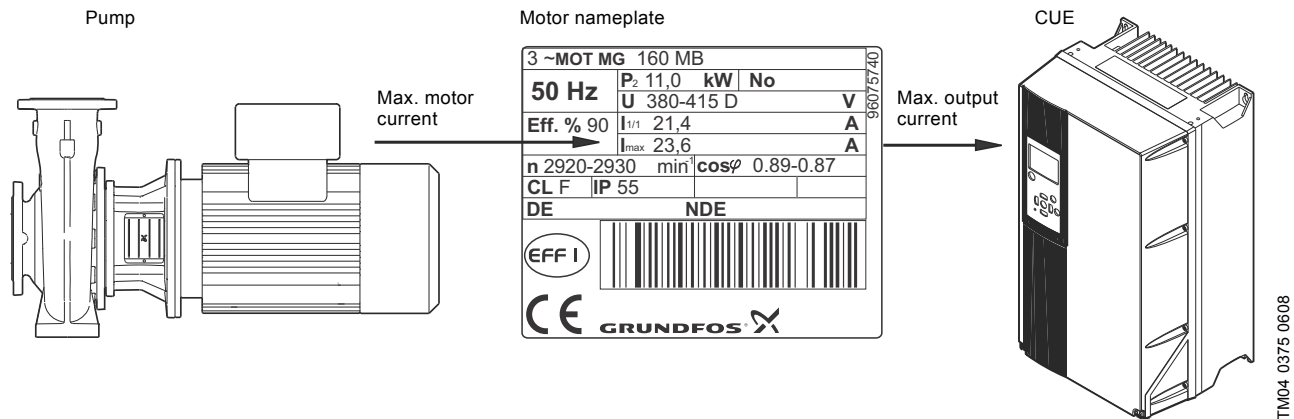

Fig. 50 Selection of CUE based on max. motor current
The size of the CUE is determined quickly and precisely based on the max. motor current. See fig. 50.
- Max. motor current is 23.6 A. See fig. 50.